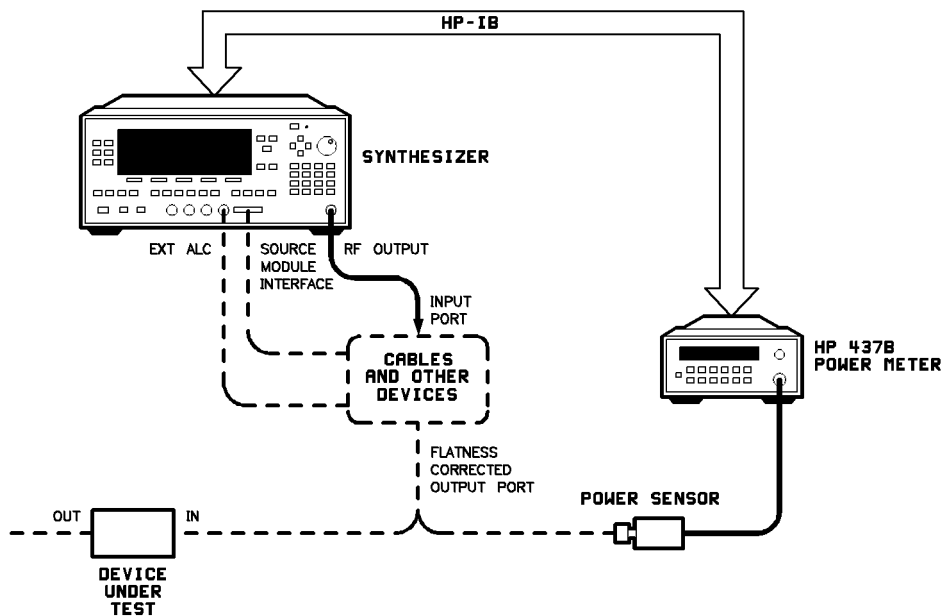
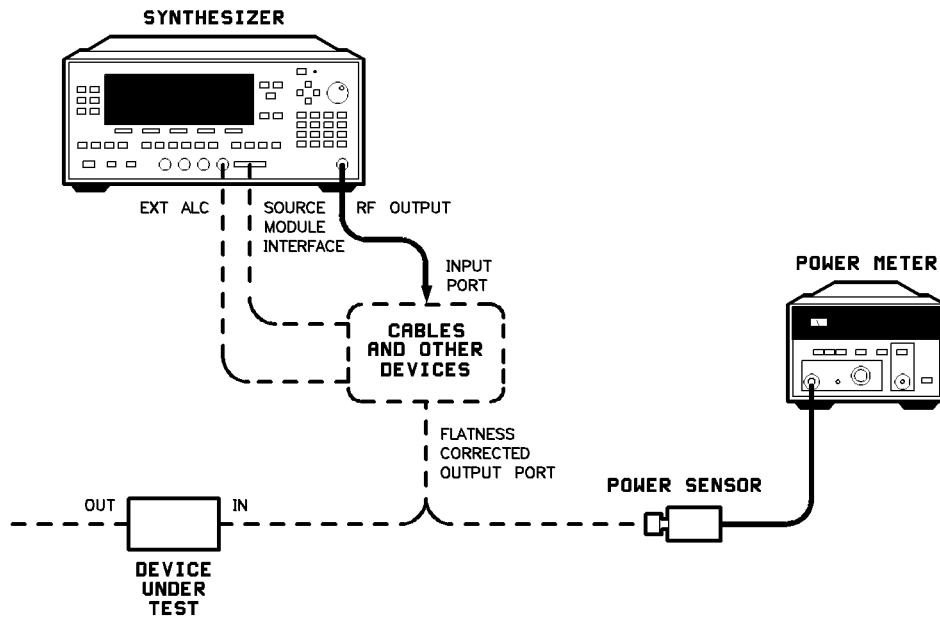

Figure 1-18. Creating a User Flatness Array Automatically
Figure 1-19. Creating a User Flatness Array
There are two basic front-panel methods of creating a flatness correction array. The first and quickest method is to use an HP 437B power meter. Refer to Figure 1-18 for the setup. The second method is just as accurate, but requires a little more interaction between the operator and the instruments. Figure 1-19 shows the setup for the second method.
1. The equipment setup shown in Figure 1-18 assumes that if the setup has an external leveling configuration, the steps necessary to correctly level have been followed. If you have questions about external leveling refer to earlier paragraphs titled, “Externally Leveling the Synthesizer.”
1. The equipment setup shown in Figure 1-19 assumes that if your setup has an external leveling configuration, the steps necessary to correctly level have been followed. If you have questions about external leveling refer to earlier paragraphs titled, “Externally Leveling the Synthesizer.”